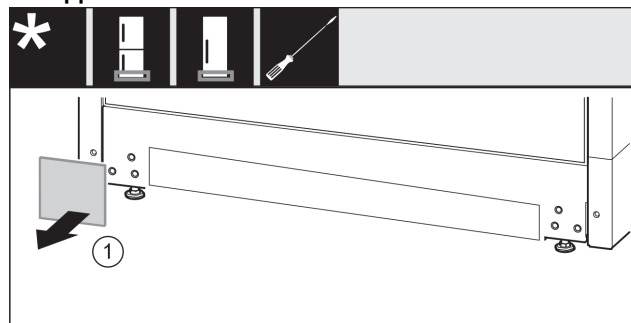

Fig. 14
- Remove the cover. Fig. 14 (1)